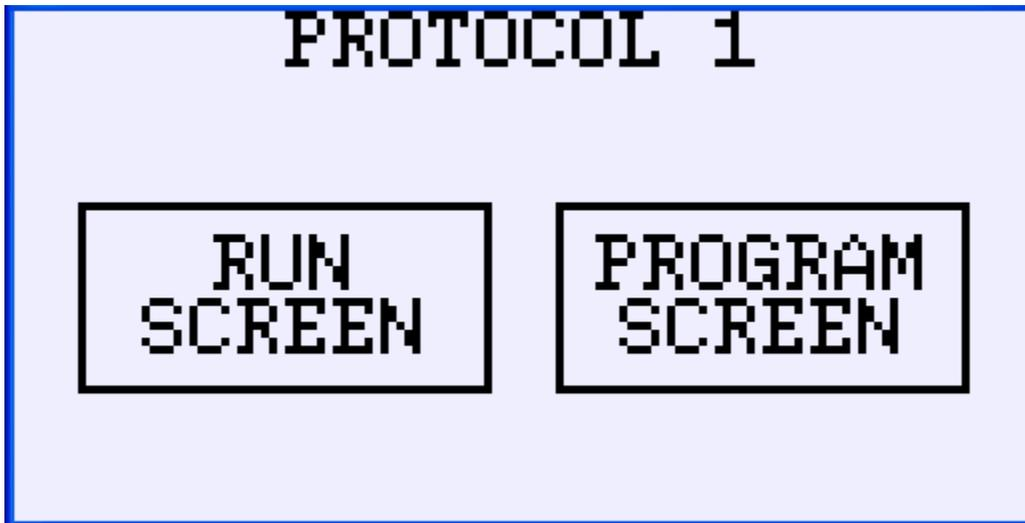

Figure 14
Touch any of the four protocol buttons to bring up that protocol's run/program screen (Figure 14).
To change the protocols program touch the **PROGRAM SCREEN** function button on the protocol run/program screen (Figure 14) and see the **Program Protocol Screens** section below.
10. Press the **Back** function button to return to that protocol's run/program screen (Figure 14). The screen can now be used to run your new protocol.